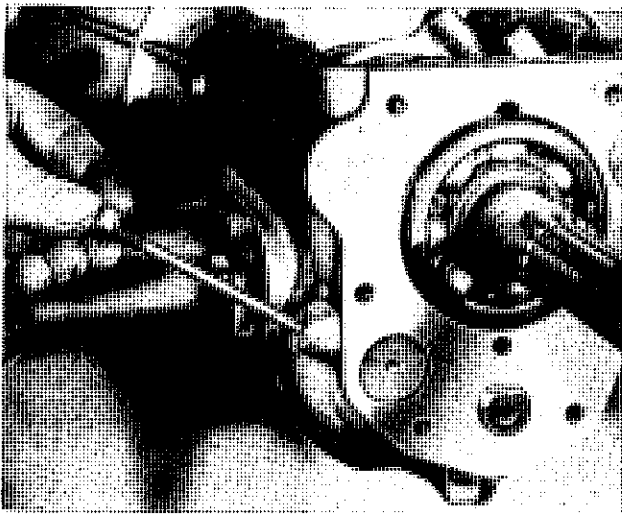

Fig. 4. Showing the removal of the countershaft and reverse pinion locating setscrew
8. Withdraw the countershaft locating setscrew ($\frac{1}{2}$ " A/F spanner) as shown in Fig. 4.